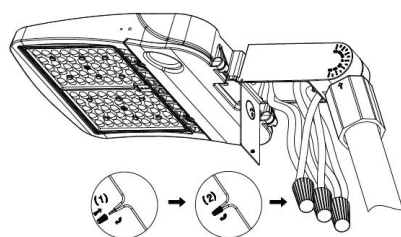

Fig.11
**For Type F Description 6-7, see Fig.11**